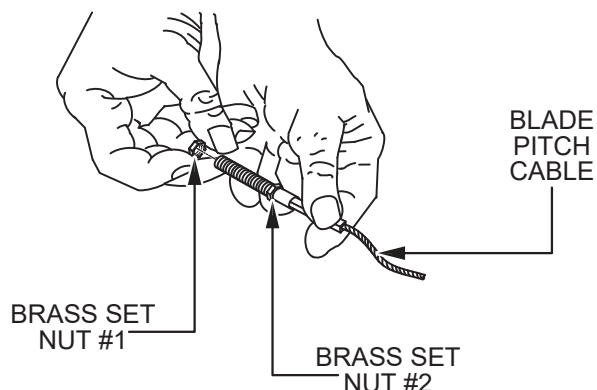

Figure 14. Blade Pitch Cable
- Remove brass set nut #1 from the end of the blade pitch cable (Figure 14).
- Thread brass set nut #2 as far as possible towards the blade pitch cable (Figure 14).